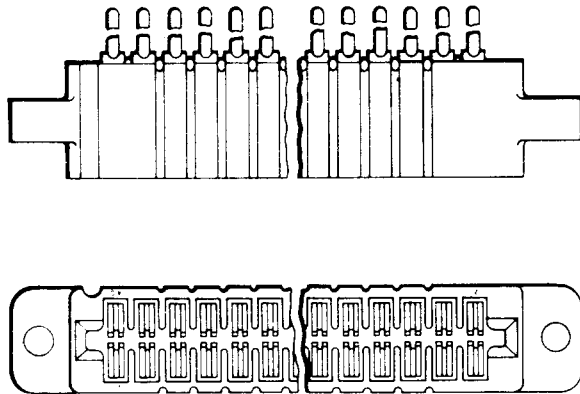

Fig. 1—908A, B, C, E, F, G, H, J1, J2, J3, J4, J5, J6, J7, J8, J9, J10, J11, J12, K, L, M, P, T, U1, U2, U3, U4, U5, W, or Y Connector
2.01 **908-Type:** The 908-type connectors consist of a molded block of insulating material containing contact spring assemblies equipped with twin contacts for connection to a printed wiring board. The wiring end is arranged for mechanically wrapped connections, unless otherwise stated. These connectors are arranged with contacts in a single row or double row configuration. Single rows are arranged to make contact with printed wiring terminals on one side of a 0.062-inch thick printed wiring board. Double rows of terminals are arranged to make contact with printed wiring terminals on two sides of a 0.062-inch thick printed board. (See Fig. 1, 2, and Table A.)